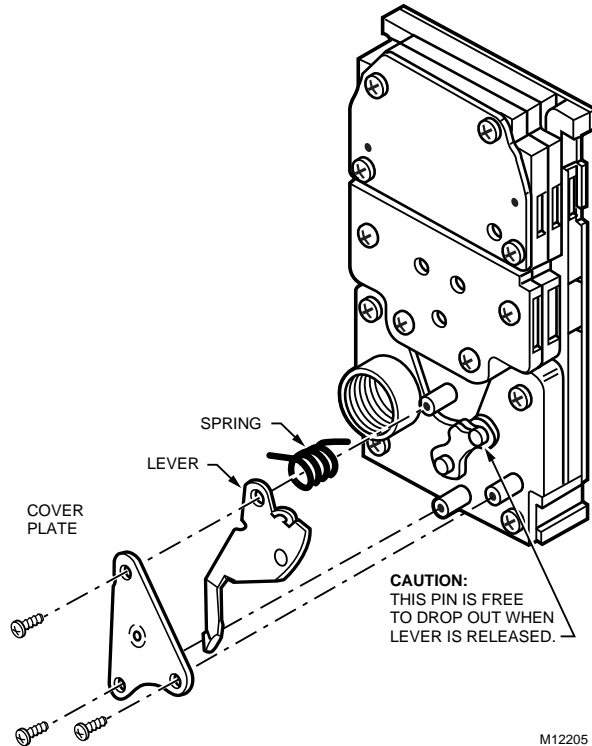

Fig. 20. DAY/AUTO Lever Assembly Replacement.
1. Remove the three Phillips head screws that fasten the lever mechanism to the back of the thermostat (Fig. 20).